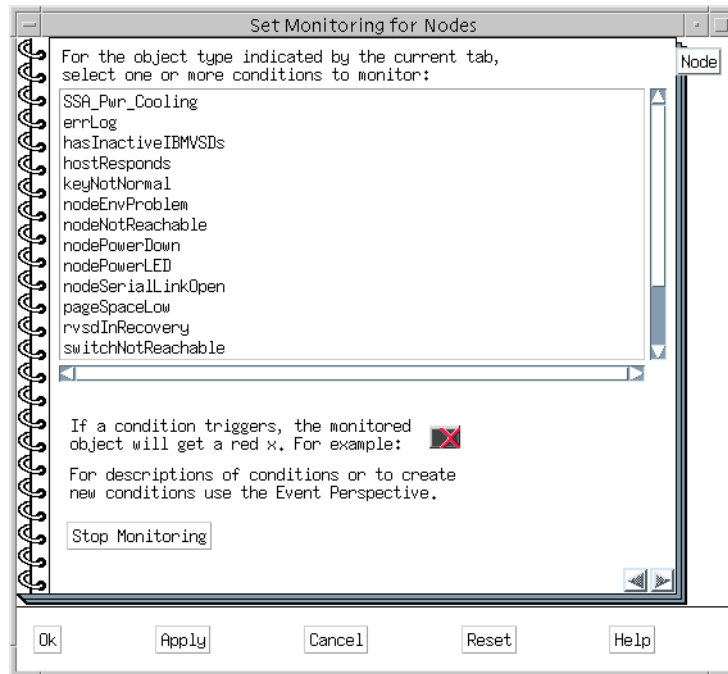

Figure 59. Node page of set monitoring notebook
3. You will see the Set Monitoring for Nodes notebook as shown in Figure 59.
To stop monitoring, click **Stop Monitoring** in Set Monitoring for Nodes notebook as shown in Figure 59 on page 255 or simply terminate the Hardware Perspective.